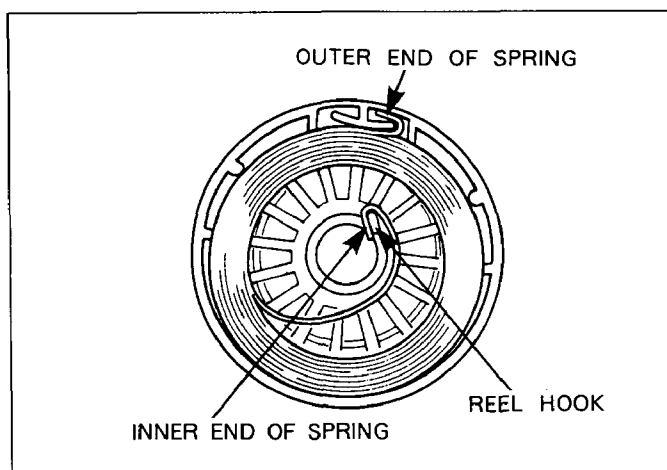

Fig. 26
(4) Then let rope out of reel from notch on reel. Line up reel hook with inner end of spring as shown in Fig. 26 and install reel in starter case.
- (1) IN CASE THE SPRING JUMPS OUT AT DISASSEMBLING.
- Hook outer end of spring to the reel. (See Fig. 26.)